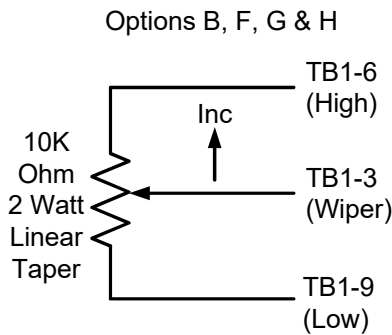

Figure 3 – Potentiometer
2. For B, F, G & H, the potentiometer is connected to TB1 -3, -6 & -9. (Fig 3)